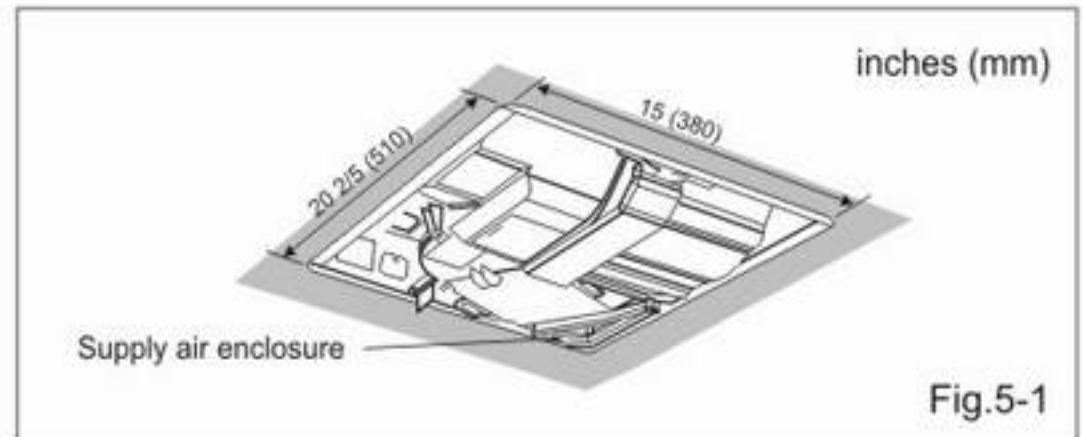

Fig.5-1
10. Finish ceiling work. Ceiling hole should be aligned with the edge of the flange. (Fig.5-1)